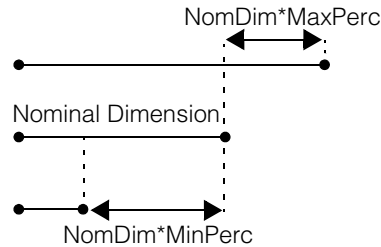

Figure 88. Percent tolerances on the nominal dimension of a segment
- As percentage tolerances on the nominal dimension of the segment. In this case the length of the segment is limited between $[\text{NomDim} \cdot (1 - \text{MinPerc})]$ and $[\text{NomDim} \cdot (1 + \text{MaxPerc})]$ where: MinPerc = minimum percentage tolerance, MaxPerc = maximum percentage tolerance and NomDim = nominal dimension. The limits on the dimension of the segment are illustrated in Figure 88.